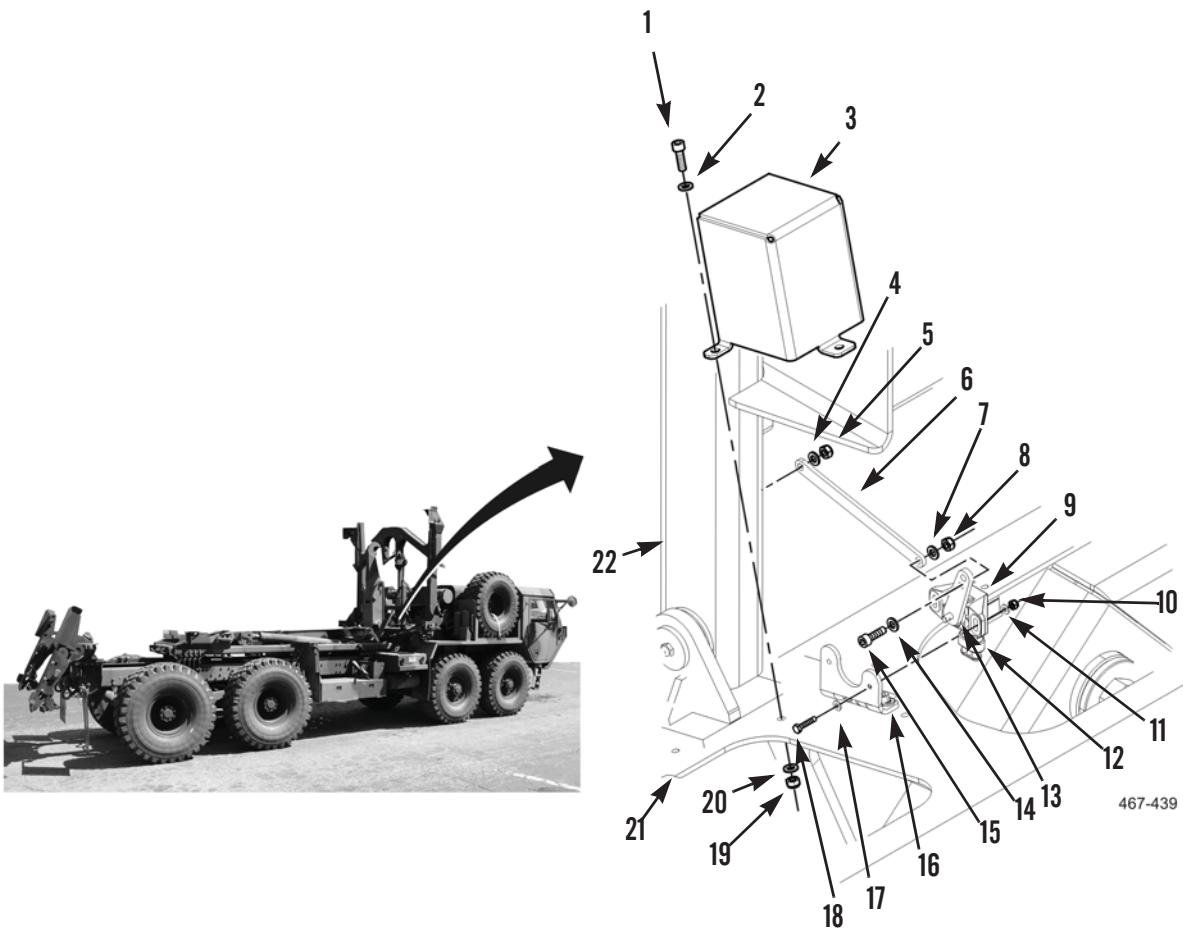

Figure 1. Angle Sensor.
2. Remove locknut (Figure 1, Item 8), washer (Figure 1, Item 7), bolt (Figure 1, Item 15), washer (Figure 1, Item 14), and sensor arm (Figure 1, Item 6) from sensor linkage (Figure 1, Item 13). Discard locknut.
3. Remove locknut (Figure 1, Item 5), washer (Figure 1, Item 4), and sensor arm (Figure 1, Item 6) from stowage guide (Figure 1, Item 22). Discard locknut.
4. Remove two locknuts (Figure 1, Item 10), washers (Figure 1, Item 11), bolts (Figure 1, Item 18), washers (Figure 1, Item 17), and angle sensor (Figure 1, Item 9) from sensor bracket (Figure 1, Item 16). Discard locknuts.
5. Disconnect harness (Figure 1, Item 12) from angle sensor (Figure 1, Item 9).
1. Connect harness (Figure 1, Item 12) to angle sensor (Figure 1, Item 9).
2. Install angle sensor (Figure 1, Item 9), two washers (Figure 1, Item 17), bolts (Figure 1, Item 18), washers (Figure 1, Item 11), and new locknuts (Figure 1, Item 10) on sensor bracket (Figure 1, Item 16).
3. Install sensor arm (Figure 1, Item 6), washer (Figure 1, Item 4), and new locknut (Figure 1, Item 5) on stowage guide (Figure 1, Item 22).
4. Install bolt (Figure 1, Item 15), washer (Figure 1, Item 14), sensor arm (Figure 1, Item 6), washer (Figure 1, Item 7), and new locknut (Figure 1, Item 8) on sensor linkage (Figure 1, Item 13).
5. Install sensor cover (Figure 1, Item 3), three washers (Figure 1, Item 2), bolts (Figure 1, Item 1), washers (Figure 1, Item 20), and new locknuts (Figure 1, Item 19) on stowage assembly (Figure 1, Item 21).